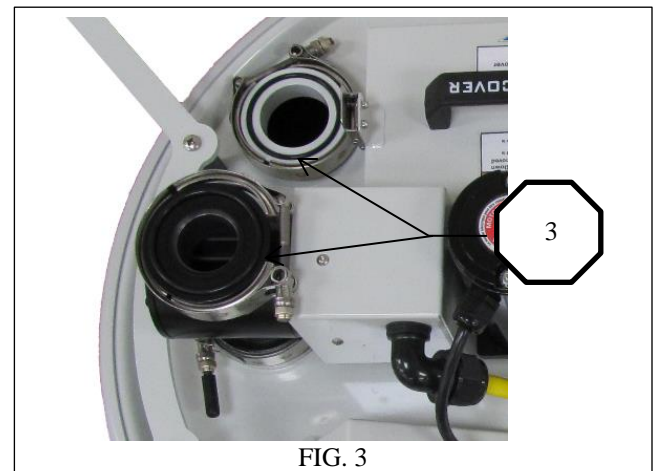

FIG. 3
3. Apply silicone grease on the two O-rings and place an O-ring and a clamp on the airlock assembly & an O-ring and a clamp on the mounting flange for the installation of the cyclone assembly. **Figure 3**